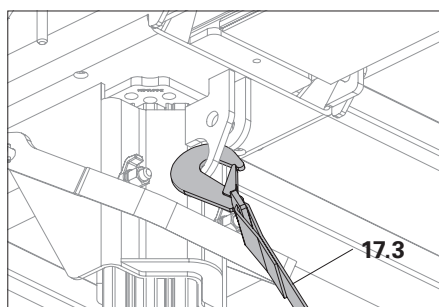
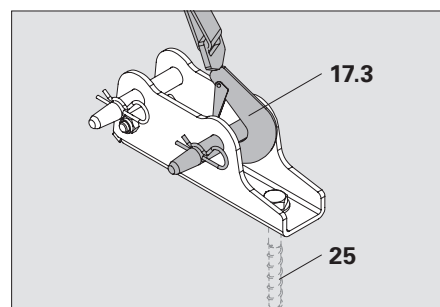

Fig. A4.05a
Fig. A4.05b
- Cinghia (17.3) e piastra base-2 per RS (18), ad es. cinghia STL.B. (Fig. A4.05a + Fig. A4.05b)